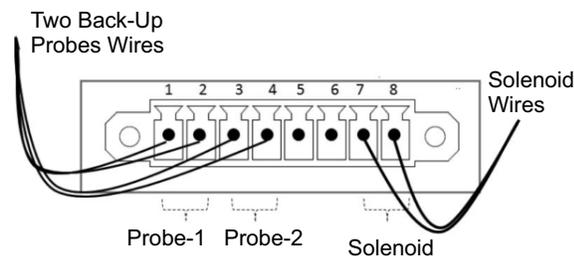

Figure 17. Probe Wires
11. Plug the solenoid/probe connector into the BUS connection and secure with a screw on the right and left side (Figure 17). The connector is keyed.
12. Connect power to the freezer. Turn the freezer On, with the battery switch Off (O).